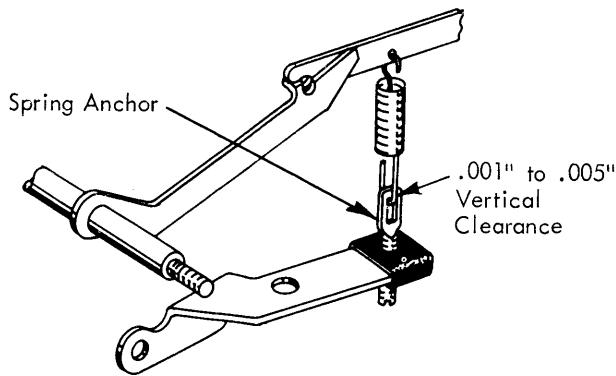

FIGURE 118. *Spacebar Repeat Stop (New Style)*
- b. New Style - The spring anchor should be adjusted up or down so that .001" to .005" clearance exists between the spring and the anchor, when a single operation takes place as the spacebar is depressed slowly (Fig. 118).